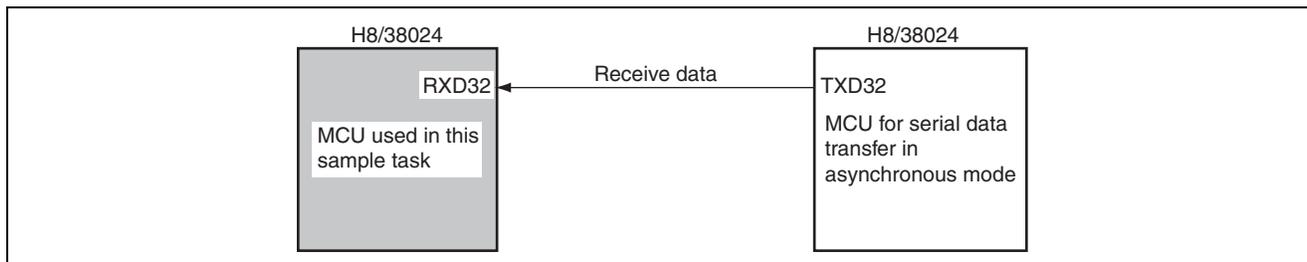

Figure 1.1 Serial Data Reception in Asynchronous Mode
1. Using the serial data transfer function in asynchronous mode four bytes of 8-bit data are received as shown in figure 1.1.